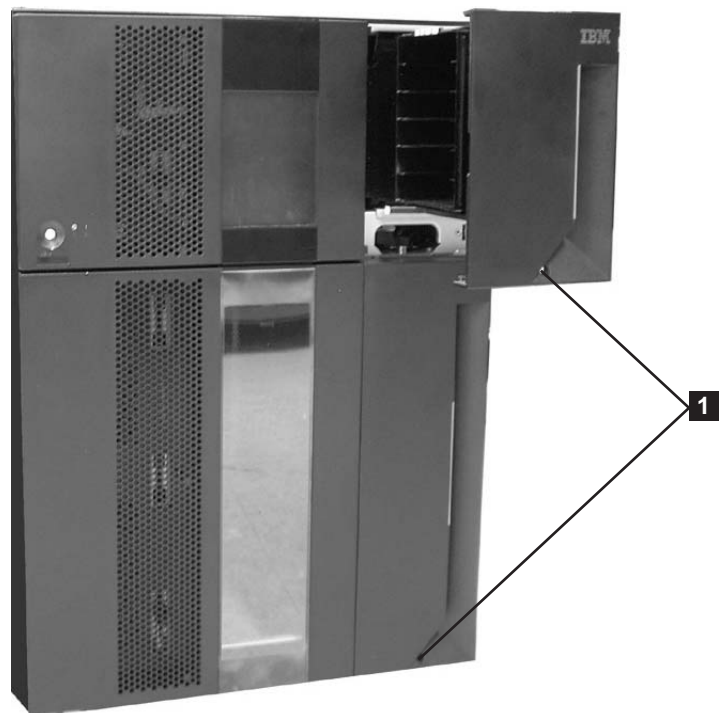

Figure 7-17. Access holes for manually unlocking I/O Station doors
There are 2 styles of I/O Station Lock mechanisms. The early style uses a T10 Torx wrench to rotate the lock mechanism. The new style has a large push-button type mechanism behind the hole (**1** in Figure 7-17) in the I/O station door.
1. Insert a T10 Torx wrench in the hole (**1** in Figure 7-17) located on the front of the I/O Station door of the library module you wish to open.
1. Insert any straight tool (screwdriver, Torx wrench, etc.) into the hole (**1** in Figure 7-17 on page 7-31) in the front cover of the I/O station.